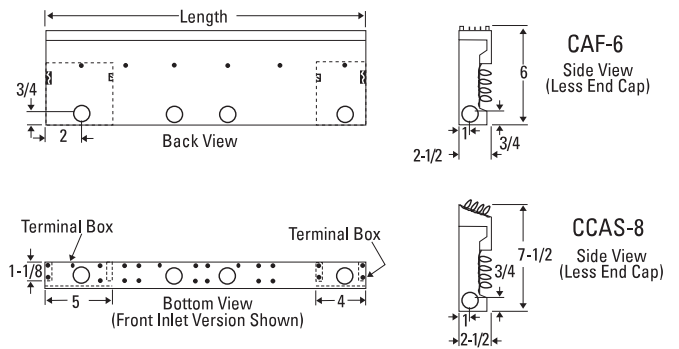

Figure 3
3. Remove all appropriate knockouts from terminal boxes, particularly terminal box end knockouts when installing continuous run heating. (See Figure 3).
3. Service supply entry is usually made to one heater terminal box (see Figure 3) with through wiring (Factory Installed) being used for interconnection of all heaters in a continuous run installation.
4. Knockouts are provided at the back, bottom and ends of all heater backs (see Figure 3). Terminal boxes are located at both ends of every heater.